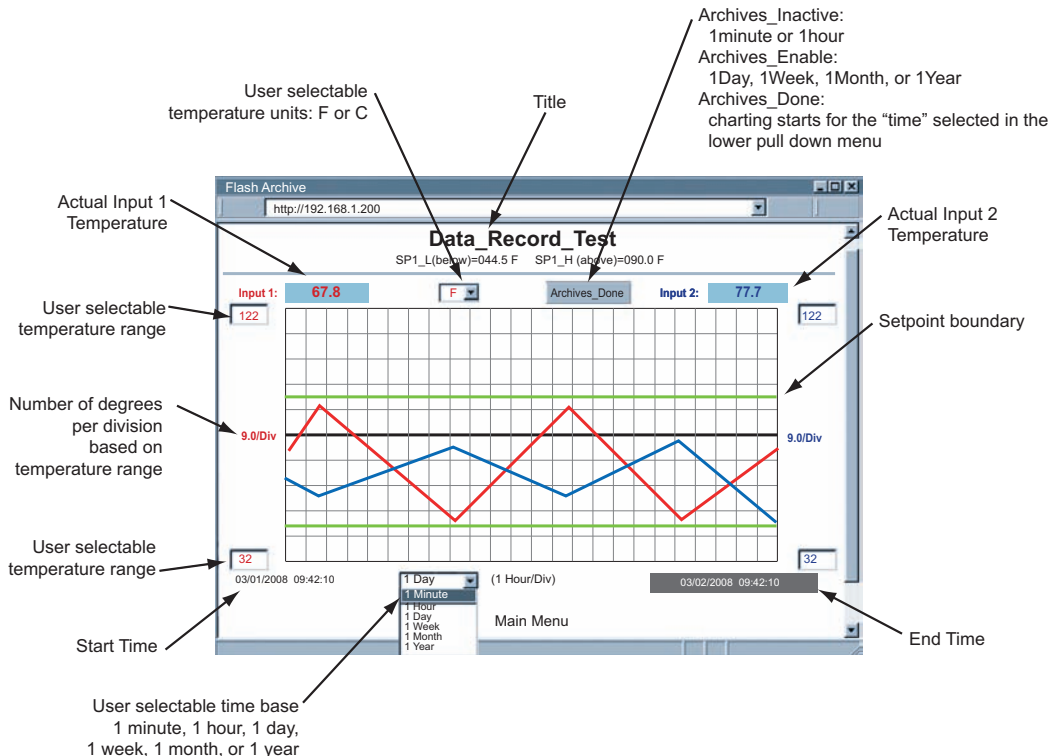

Figure 4.8 Adjustable Chart
- Click on **Chart**, the following page (**Figure 4.8**) should appear. The Java™ Applet graph displays Temperature values which can be charted across the full span or within any narrow range (such as 20 to 30°C). The time-base can display one minute, one hour, one day, one week, one month or one year.